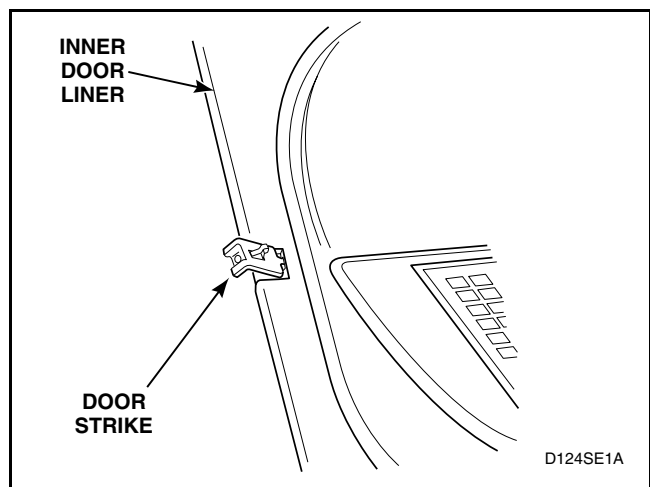

Figure 29
- Remove door strike from door liner and reinstall strike on opposite side. Refer to *Figure 29*.